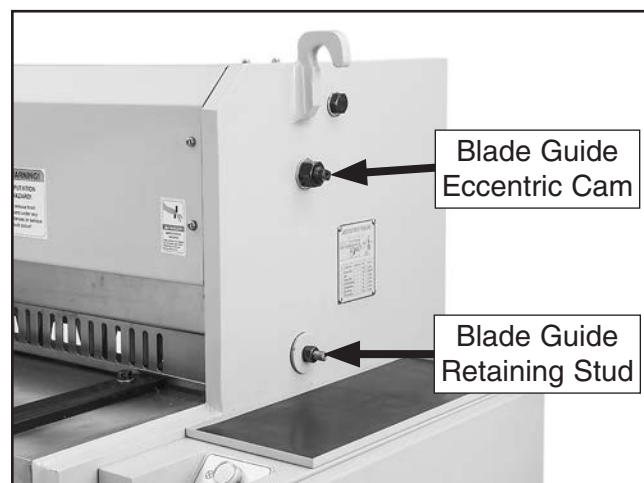

Figure 56. Location of blade guide retaining hex nut and eccentric cam (right side).
- Slightly loosen hex nuts on both blade guide retaining studs, then loosen hex nuts on both blade guides just enough to adjust eccentric cams (see **Figure 56**).